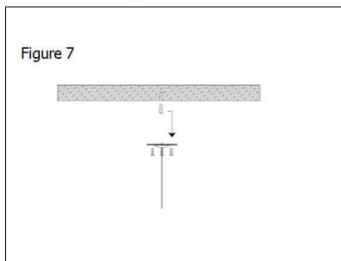

Figure 7
Step 2: Drill 6mm holes on the ceiling in the corresponding positions according to disc holes position of hanging rope, insert M6 wall plugs into the holes, then fix hanging rope disc to ceiling with the provided M4 screws (Figure 7).